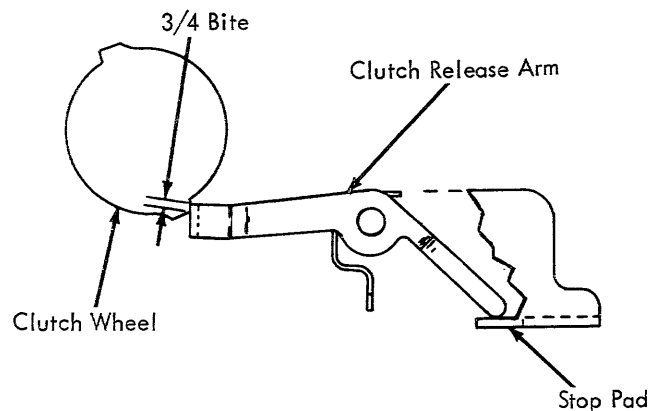

FIGURE 118. Stop Pad Adjustment
6. Clutch Release Arm Stop Pad (Fig. 118) - Form the stop pads so that with the clutch release arm at rest (against its stop pad) the clutch release arm has a 3/4 bite on the latching surface of the clutch wheel. This should be observed from the rear of the machine.